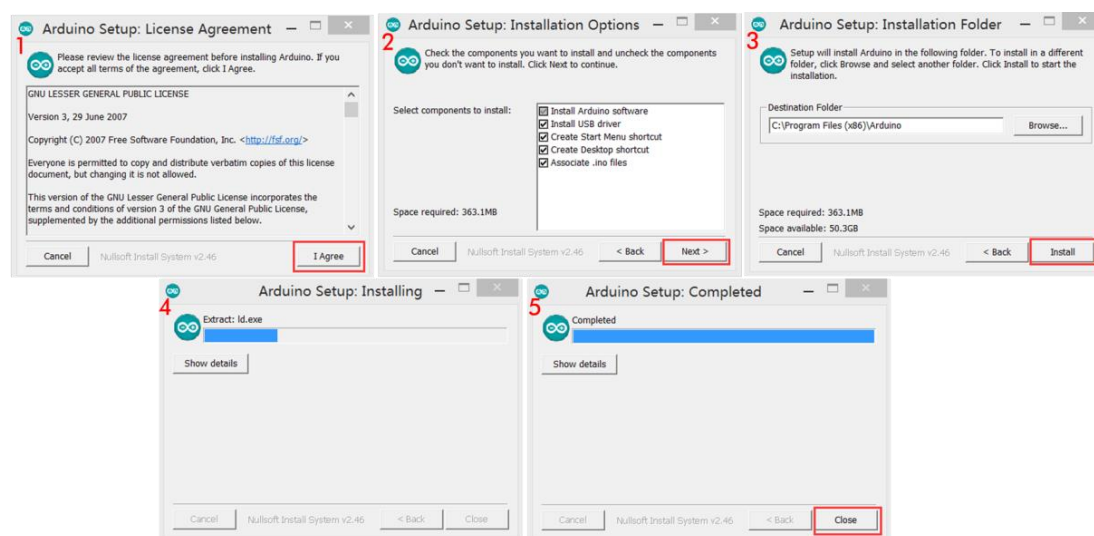

Fig. 34
Step 1. The installation of Arduino is shown in Figure 34, double click 'arduino - 1.6.4 - windows.exe', then click 'I Agree' in the installation dialogue and click 'Next' and choose the 'installation path' if necessary till finally see the 'Install' button then click it to start. When installation finished, close the dialogue interface and a shortcut of 'Arduino' would appear on PC desktop, which means it has been successfully installed.